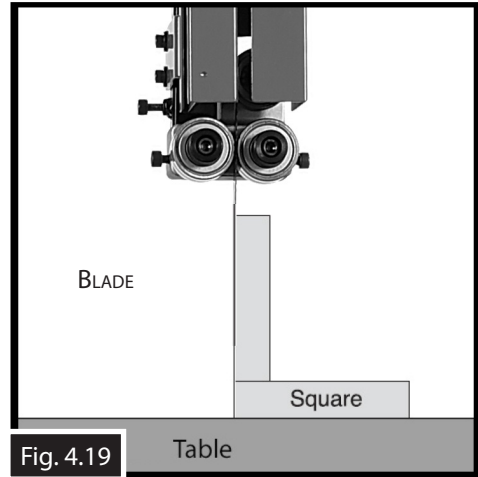

Fig. 4.19
4. Raise the guide post and place a machinist's square on the table next to the side of the blade, as illustrated in Fig. 4.19. Adjust the table square with the blade, then secure with the table tilt knobs.